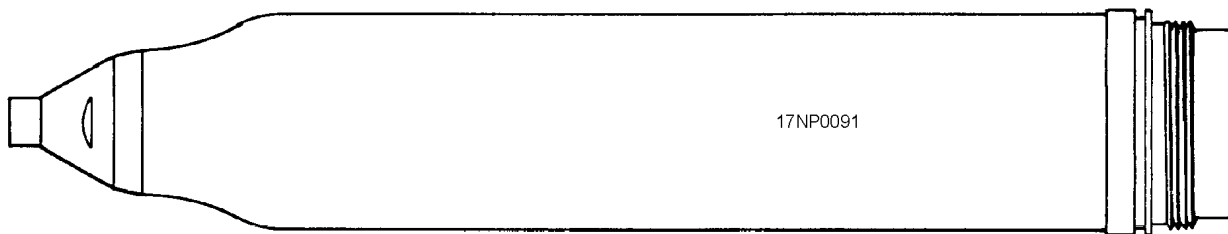

Figure 2-7.—Mk 32 Mod 0 AT/APERS warhead.
**AT/APERS WARHEAD.**—The high-explosive antitank/antipersonnel (AT/APERS) warhead (fig. 2-7) combines the effectiveness of the HE-FRAG and HEAT warheads. The explosive shaped-charge in the AT/APERS warhead detonates at the aft end, producing the jet from the cone at the forward end. The booster in the aft end detonates the warhead by transmitting an explosive impulse along a length of detonating cord. It connects the booster charge to the initiating charge, which is next to the nose fuze. The combination of an